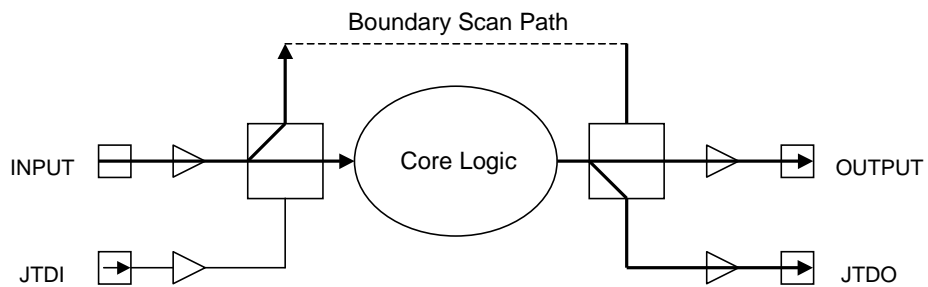

Figure 7.4.2 Test Data Flow While SAMPLE is Selected
- SAMPLE allows the input and output pads of an IC to be monitored. While it does so, it does not disconnect the system logic from the IC pins. The SAMPLE function occurs in the Capture-DR controller state. An example application of SAMPLE is to take a snapshot of the activity of the IC's I/O pins so as to verify the interaction between ICs during normal functional operation. The flow of data for the SAMPLE phase of the SAMPLE/PRELOAD instruction is shown in Figure 7.4.2.